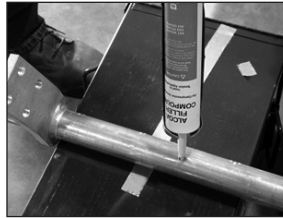

FIGURE 6a:
9. Inject filler compound (AFC or AFCHT for HiTemp®) into filler hole until compound emerges at felt washer and tapered end of aluminum body. (*Figure 6a*).